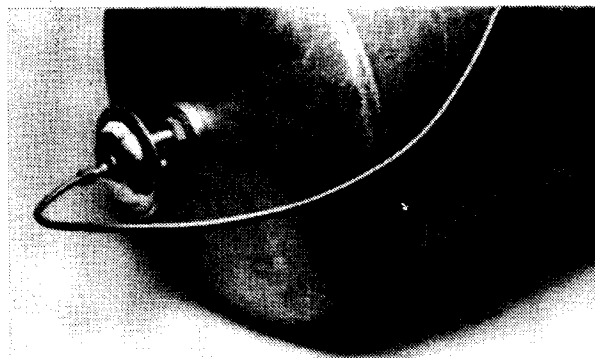

Fig. 10
3. Always install air control in position shown and connect to pump in accordance with instructions given under "Installation Twin Type". (Fig. 10)